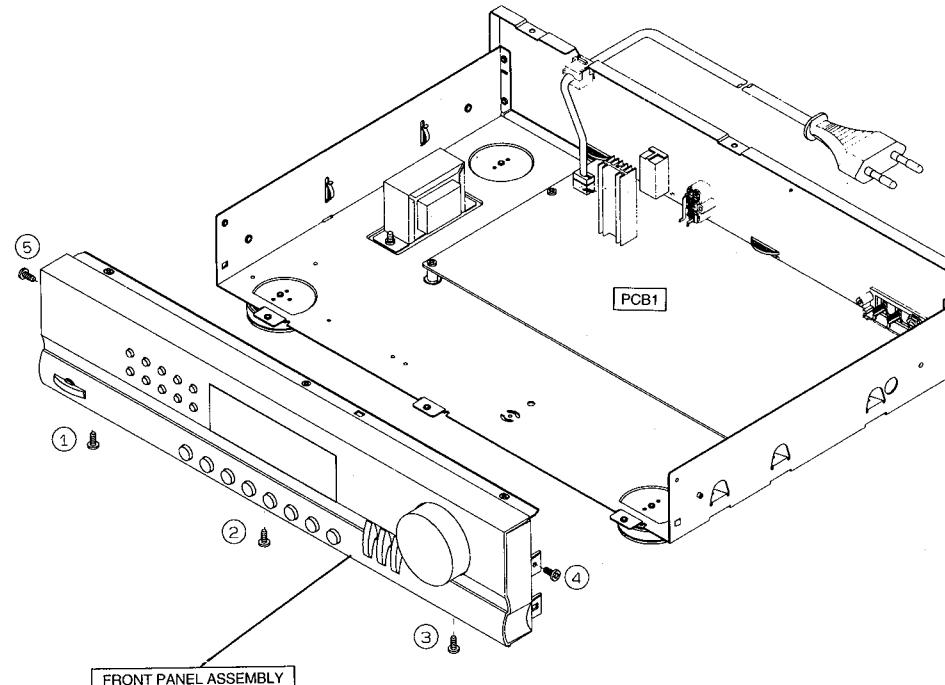

Fig. 2
② FRONT PANEL ASSEMBLY REMOVAL
1. Remove the cover top. (Refer to step ①)
2. Remove screws ① to ⑤ in Fig. 2.